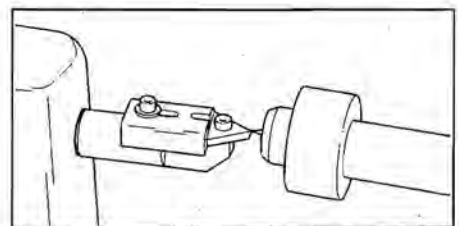

Figure 4. Check the alignment of the carbide cutter with the tailstock center.
2. **Check the alignment of the carbide cutter with the tailstock center.** Move the table next to the tailstock. With the tip of the carbide cutter almost touching the tip of the tailstock center, check that the upper surface of the cutter tip is in line with the tip of the center. (See Figure 4.) If the tips are not aligned properly, raise or lower the tailstock as required to achieve alignment. Lock the tailstock. The top surface of the table assembly is now parallel to the drive and tailstock centers.